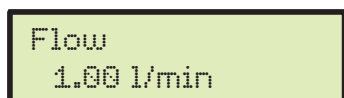

Fig. 67
- Press **OK** to automatically pass to the setting of the flowrate for the selected nozzle (Fig. 67).